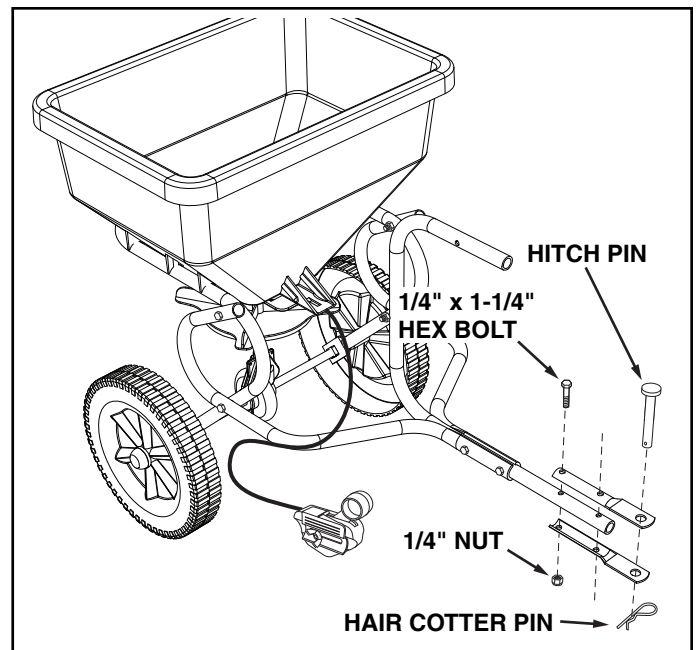

FIGURE 3
4. Assemble the Hitch Brackets to the Hitch Control Tube using two 1/4" x 1-1/4" hex bolts and 1/4" nuts. **Tighten.** See figure 3.
5. Assemble the hitch pin through the hitch brackets and secure with the 1/8" hair cotter pin. See figure 3.